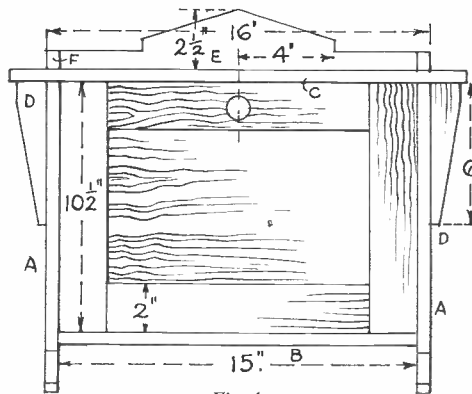
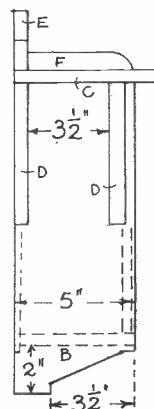

Fig. 1
Fig. 2
The various parts of the cabinet are shown in the front view Fig. 1, and in the side view Fig. 2, and here useful measurements are included for the setting out and assembly. The two sides (A) are each 13ins. by 5ins. by ½in. thick, and the simple shaping at the lower ends can be set out from Fig. 2, and cut with the fretsaw. The floor (B) is 15ins. by 5ins. by ½in., and is a plain rectangular
cut from pieces measuring 6ins. by 1½ins. by ½in. A shaped pediment rail (E) is fixed along the top, the simple shaping being set out from the details in Fig. 1. Two plain ends (F) 4½ins. by
The back of the cabinet is of ¼in. plywood cut with square angles to size 15ins. wide and 11½ins. high. It is firmly screwed to the back edge of the floor (Figs. 2 and 4).